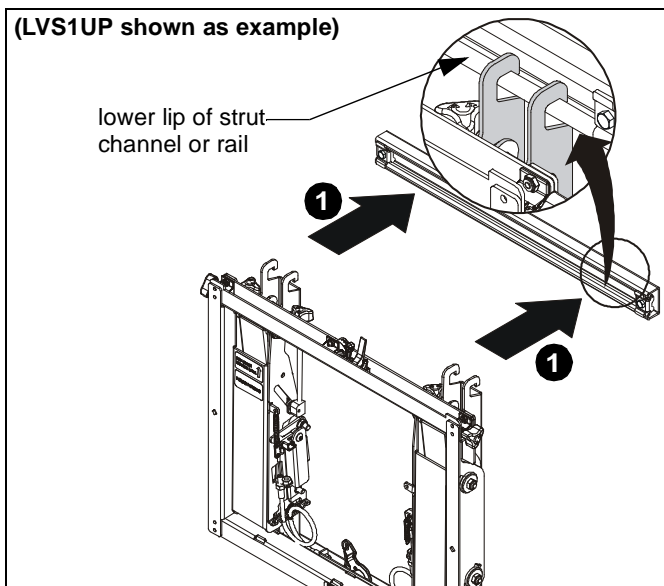

Figure 7
1. Lift mount and hang it on lower lip of upper strut channel or rail (V). (See Figure 7)